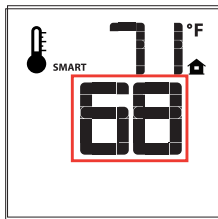

Figure 15- Remote Control Displaying Smart Thermostat Function
1. To activate this function, press the Thermostat key until the word "SMART" appears to the right of the temperature bulb on the LCD screen (see Figure 15).